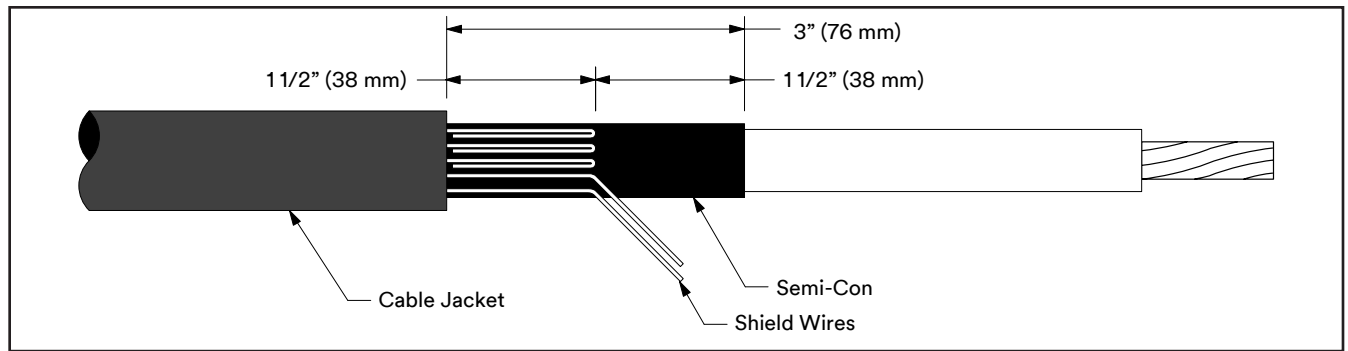

Figure 10
- 7.5 Bend leading 1 1/2" (38 mm) of exposed shield wires back upon themselves to jacket edge (Figure 10).